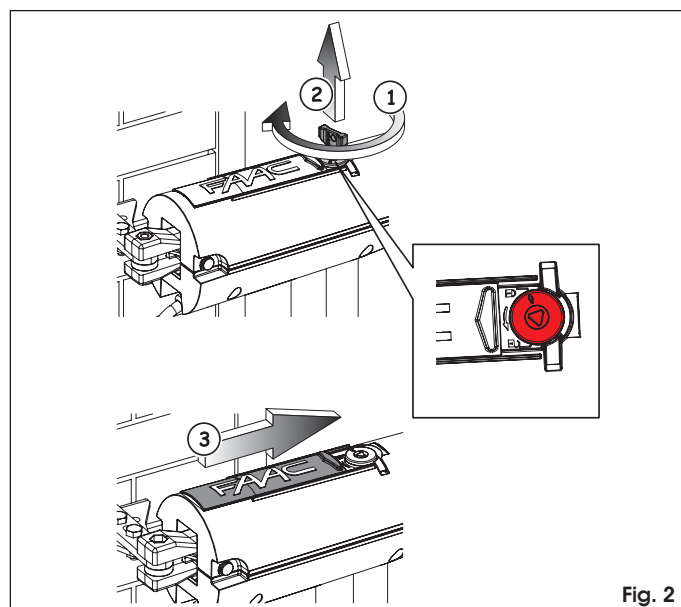

Fig. 2
2. Turn the release key clockwise until it stops, figure 2 ref. ①, and remove the key, figure 2 ref. ②. The locking position is indicated by a closed padlock.
3. Close the protective cap, figure 2 ref. ③.